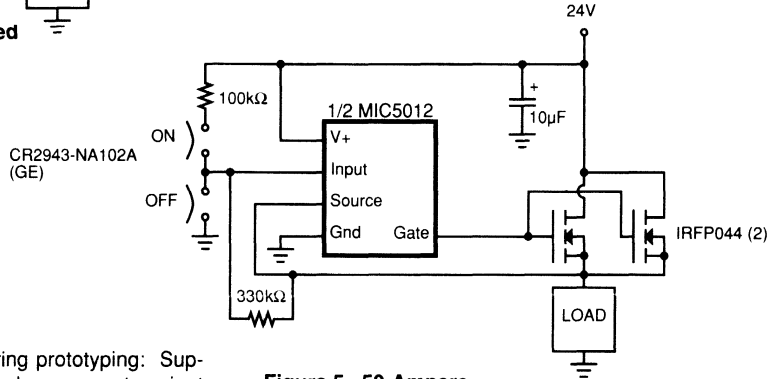

Figure 5. 50-Ampere Industrial Switch
**Industrial Switch** (Figure 5). The most common manual control for industrial loads is a push button on/off switch. The "on" button is physically arranged in a recess so that in a panic situation the "off" button, which extends out from the control box, is more easily pressed. This circuit is compatible with control boxes such as the CR2943 series (GE). The circuit is configured so that if both switches close simultaneously, the "off" button has precedence.